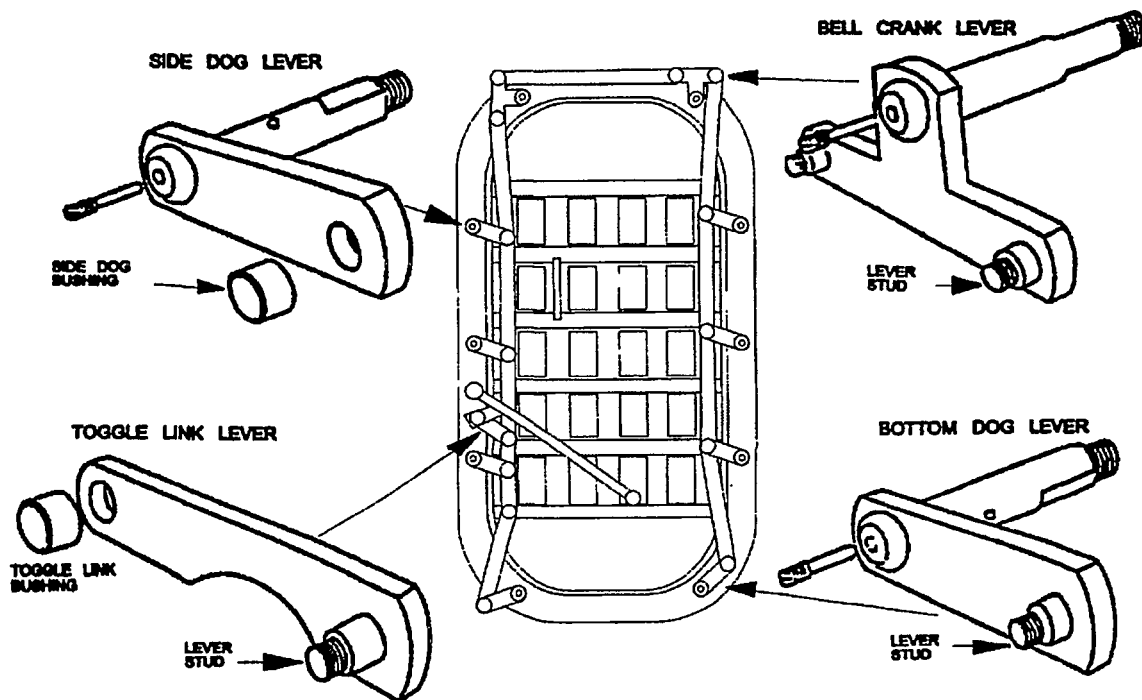

Figure 600-2.52. Quick Acting Door Levers
- a. For quick-acting doors, completely disassemble the entire operating handle, spindle, lever, and conrod assemblies. See figure 600-2.52, and refer to paragraph 600-2.4.2.6 and paragraph 600-2.4.2.7 for procedures on disassembling operating handles and lever/conrod assemblies. To make reassembly easier, mark each linkage part and its location with a metal etcher. For individually dogged doors, completely disassemble each dog. Refer to paragraph 600-2.4.3.6 for instructions.